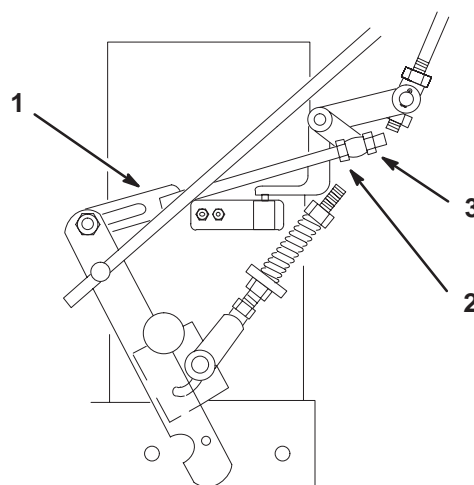

Figure 45
5. Loosen the **front** nut on left hydro control linkage shown in figure 45.
6. Turn the left **rear** adjusting nut counter-clockwise until wheel rotates forward (Fig. 45).
7. Turn the **rear** adjusting nut clockwise 1/4 of a turn at a time. Then move the speed control lever forward and back to neutral. Repeat this until left wheel stops rotating forward (Fig. 45).
8. Tighten the **front** nut on left hydro control linkage shown in figure 45.